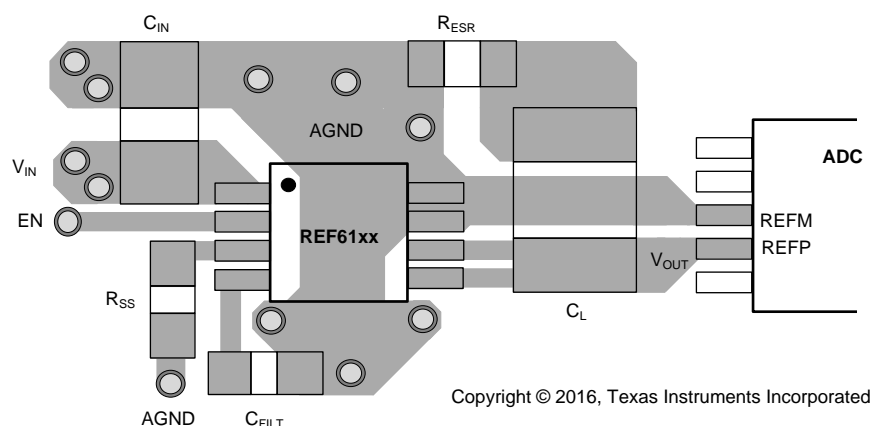

Figure 62. Layout Example
Figure 62 illustrates an example of a PCB layout for a data-acquisition system using the REF61xx. Some key considerations are:
- Run two separate traces between VOUT_F, VOUT_S and the output capacitor, as shown in Figure 62.
- Short the GND_F and GND_S pins with a solid plane, and extend this plane to connect to the output capacitor C_L , as shown in Figure 62.